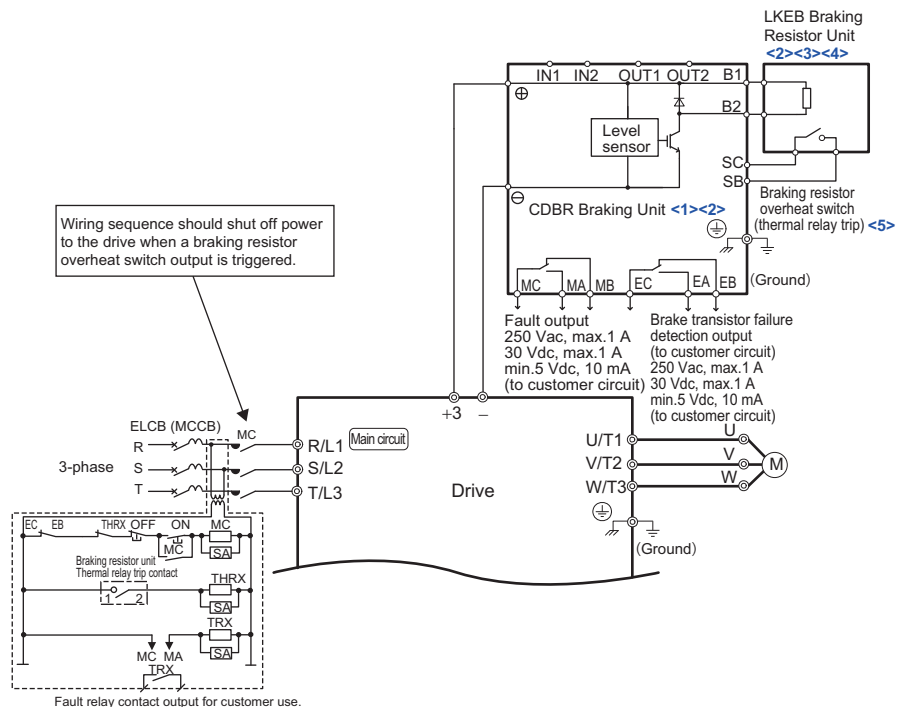

Figure 22 Drive and Option Connection Diagram: When Using Enable Inputs
1. For all CDBR wiring refer to Table 9 for wire gauge and torque specifications and refer to Figure 22 for the drive and option connection diagram